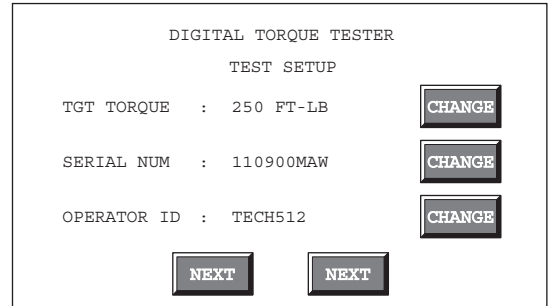

Figure 6: Test Setup screen (Quick Check mode)
- 5a. If QUICK CHECK is selected in Step 4, the tester will display the TEST SETUP screen (Figure 6).